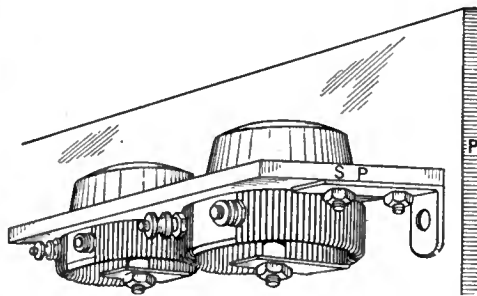

FIG. 4
**A** SIMPLE method of eliminating the rheostat knobs from the panel front on the Roberts receiver, is shown in the accompanying Fig. 4. It consists of a sub-panel, SP, about 2 x 4  $\frac{3}{4}$  inches, on which are mounted the